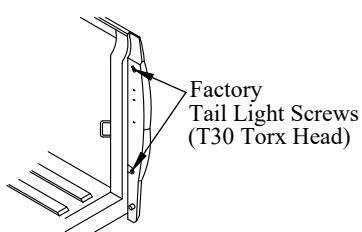

Figure 8: Factory tail light screws.
1. Remove four (4) factory tail light screws (T30 Torx), two (2) per side (Figure 8).